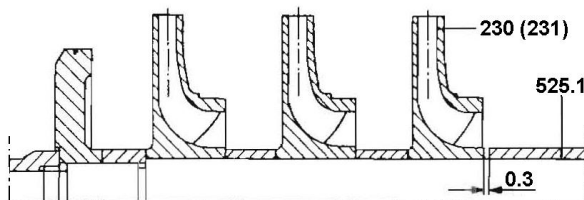

Figure 34 – Axial rotor clearance
3. Screw the shaft protecting sleeve (524.2) onto the shaft and tighten. Check that the axial clearance between the impeller (230) and shaft protecting sleeve (524.2) is 0,3 mm. Adjust if necessary by remachining the spacer sleeve (525.1) - see fig. 34.
Check the axial clearance of the rotor components before mounting the rotor. Slip the impellers, stage sleeves, balance disc and spacer sleeves (525.1/2) onto the shaft and tighten both shaft protecting sleeves. The axial clearance should be 0,3 mm (see fig. 34) if necessary machine the spacer sleeve (525.1) to achieve this. This is generally necessary if replacement spacer sleeves have been fitted.
Consult item 9.4.1.1. "General" and fig. 34.